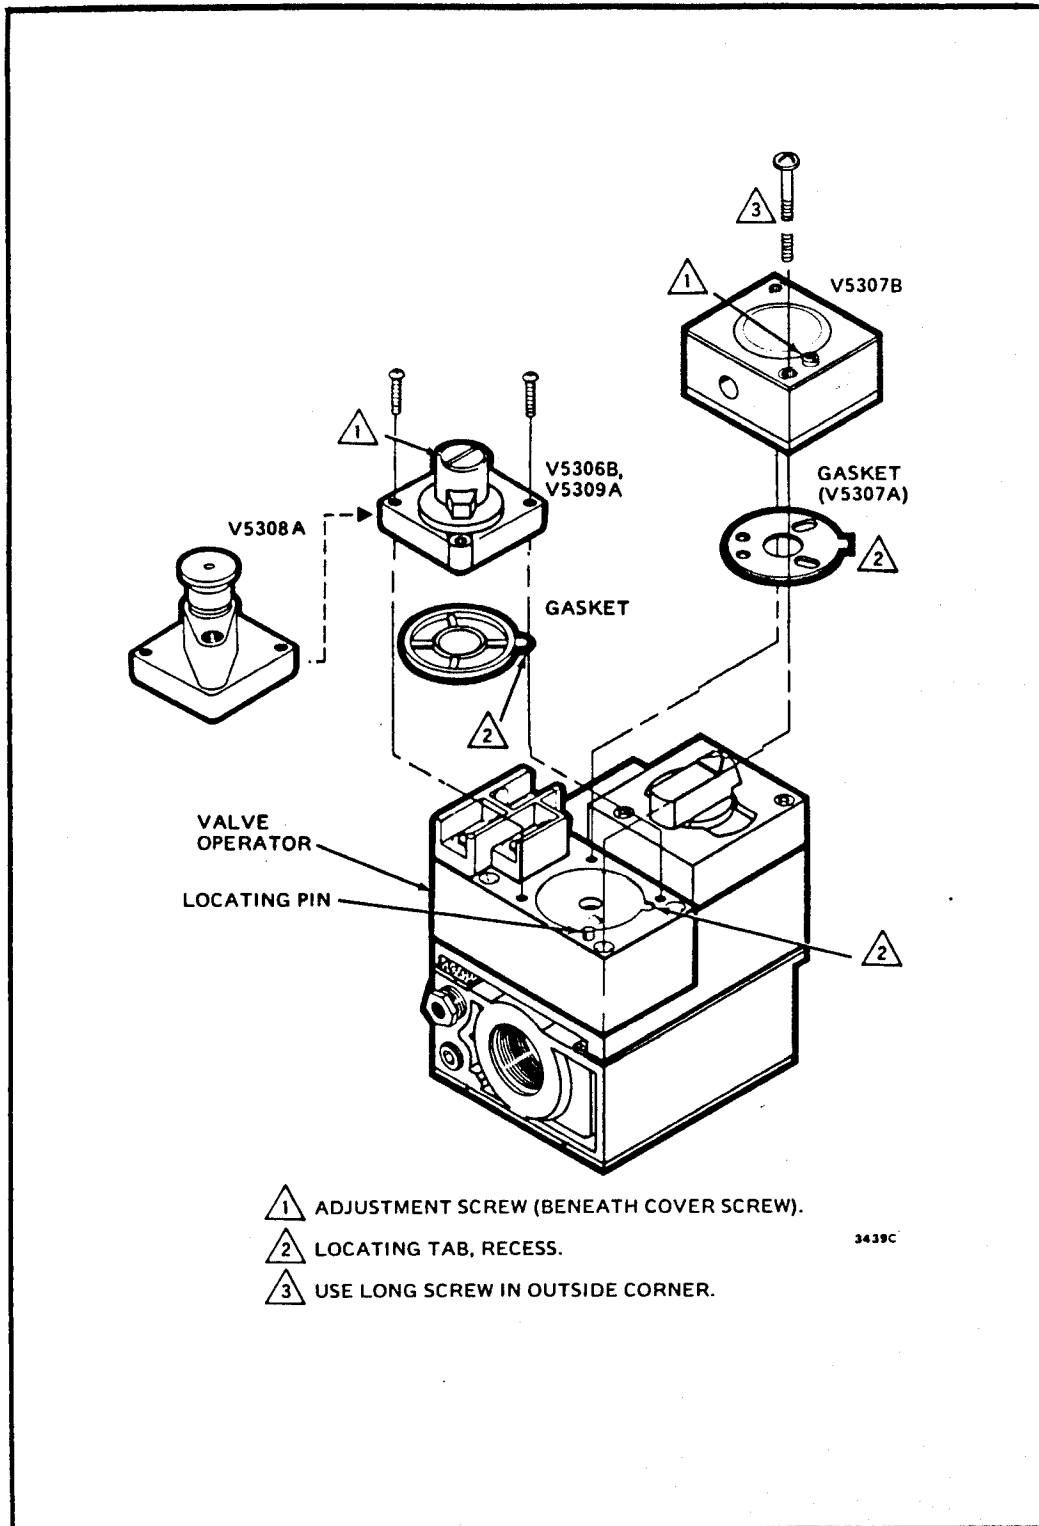

Fig. 13—Installing regulators on combination gas controls with valve operators. (V800 shown.)
1. See Figs. 13 and 14 for regulator location. Remove the old regulator, or the cover plate on manual Pilotstat power unit manifolds with adapter castings, and discard the old gasket. Check to be sure all gas ports are clear and the gasket seating surface is clean.
4. Remove the pressure regulator cover screw, Fig. 13. Using a small screwdriver, turn the adjusting screw clockwise  to increase pressure to the main burner, counterclockwise  to decrease pressure to the main burner.
1. Remove the pressure regulator cover screw, Fig. 13.